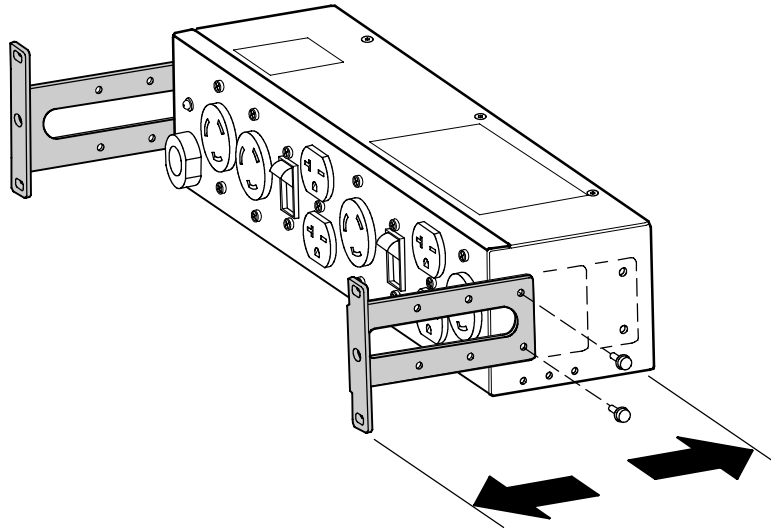

Figure 7. Deep-Recess Mounting Bracket Installation (2U Only)
2. Align the deep-recess mounting brackets with the screw holes on the sides of the ePDU (see Figure 7).